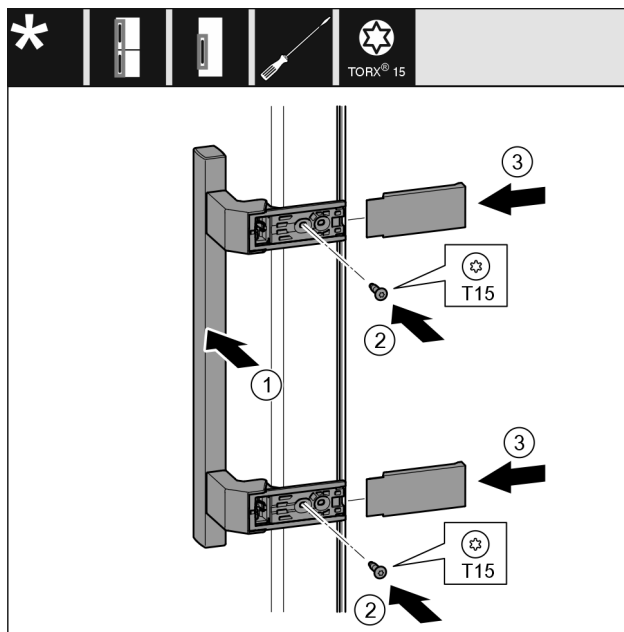

Fig. 22
- Place the handle *Fig. 22 (1)* on the opposite side.
- Tighten screws *Fig. 22 (2)* with screwdriver.
- Place the covers *Fig. 22 (3)* on the side and push them on.